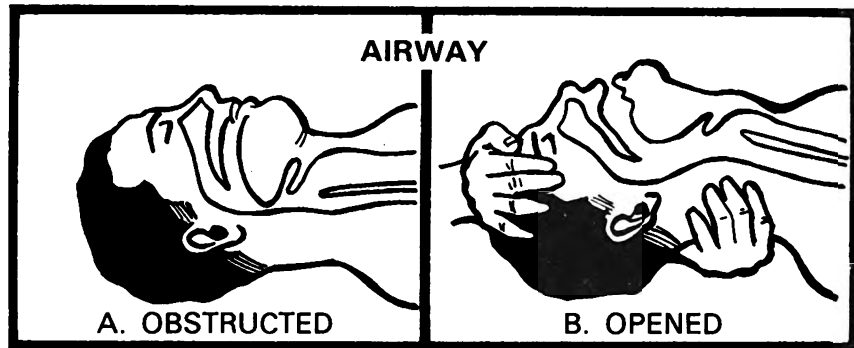

Figure 1.
b. The victim will be placed on his back with the rescuer kneeling alongside the victim's head. First clear the airway by inserting the fingers into the victim's mouth and removing any obstruction, then place one hand (hand nearest victim's feet) under the victim's neck and the other hand on the victim's forehead. By lifting with the hand under the neck and pushing down on the forehead, the neck is extended, the tongue is lifted away from the back of the throat, and the airway is opened (figure 1).